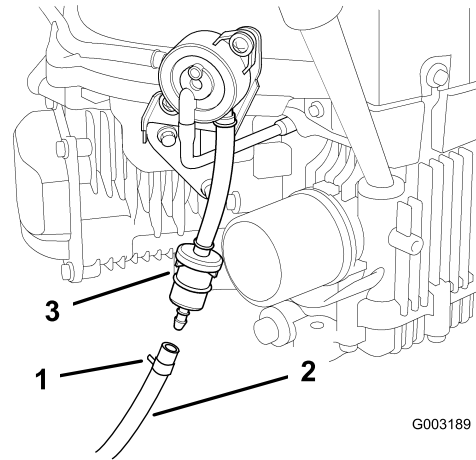

Figure 41
5. Loosen the hose clamp at the fuel filter and slide it up the fuel line away from the fuel filter (Figure 41).
6. Pull the fuel line off of the fuel filter (Figure 41).
8. Install the fuel line onto the fuel filter. Slide the hose clamp close to the fuel filter to secure the fuel line (Figure 41).
4. Squeeze the ends of the hose clamps together and slide them away from the filter (Figure 41).
6. Install a new filter with the flow direction arrow coming from the fuel tank and pointing to the engine and move the hose clamps close to the filter (Figure 41).